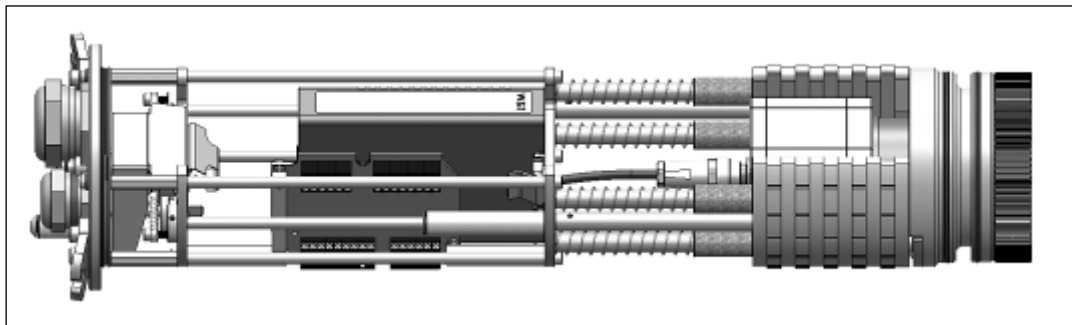

Figure 50: Chassis with PI camera, industrial PIF and USB server Gigabit
7. Then connect the PI camera and the USB server Gigabit with the provided USB cable and the Industrial PIF with the camera. Combine the network connector and the USB server Gigabit (**Figure 50**).